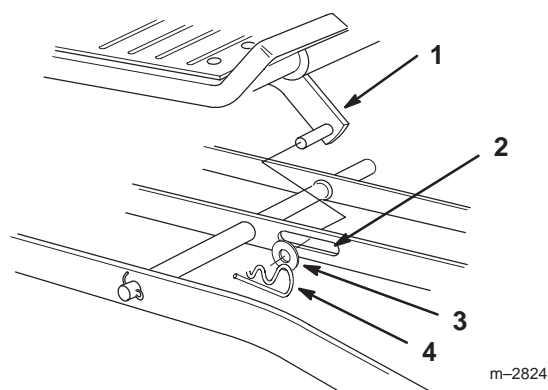

Figure 5
- Slide the mower under the chassis from the right side and align attachment lift with slot in center lever bar (Fig. 5).
- Place attachment lift pin into slot in center lever bar and secure with a washer (3/4 in.) and a hairpin cotter (Fig. 5).